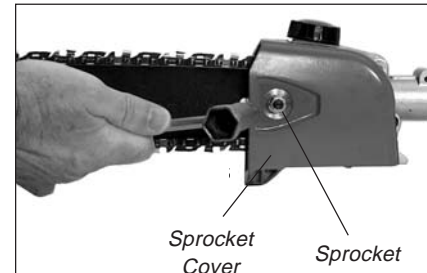

Figure 14
1. Using the small end of the plug wrench, remove the sprocket cover nut (turn counterclockwise to remove) and remove the sprocket cover. See Figure 14.